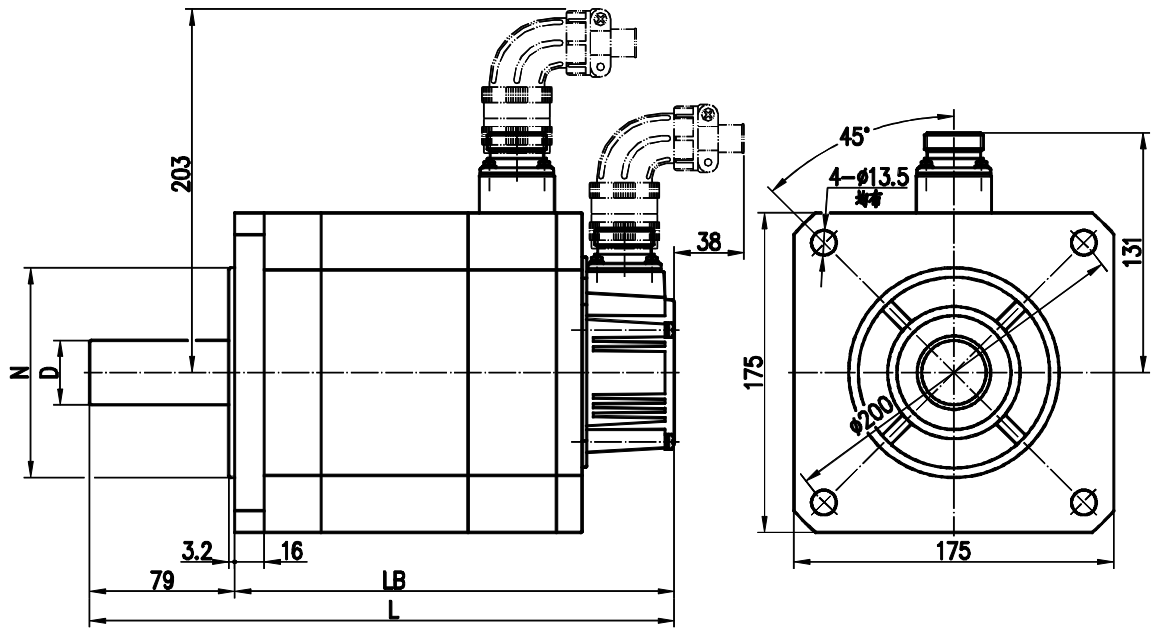

Fig. 4
6.4 See Fig.4 about the installation dimensions of 175SJT
- 10.1 The motor structure is protected by the IP65 degree in Chinese standard GB4208—1993 *SHELL PROTECTION DEGREE (IP CODE)*, it can prevent the personnel from touching the motor internal dangerous parts and external interferences to the motor, and ensure the motor running. As to the liquids such as cutting fluid, lubricant with strong penetration feature, if motor touches these materials for a long time, it may run abnormally and the motor life may be decreased. Therefore, proper protection should be made in motor mounting to prevent the motor from contacting those liquids, and don't soak the motor in the liquids (see Fig.4).
10.2 If the motor cables are not properly distributed, some liquids like cutting fluid etc. may go along the cables and gathered on the socket connectors that may cause fault to the motor. So make the motor connector side downward as possible in mounting (see Fig.4).